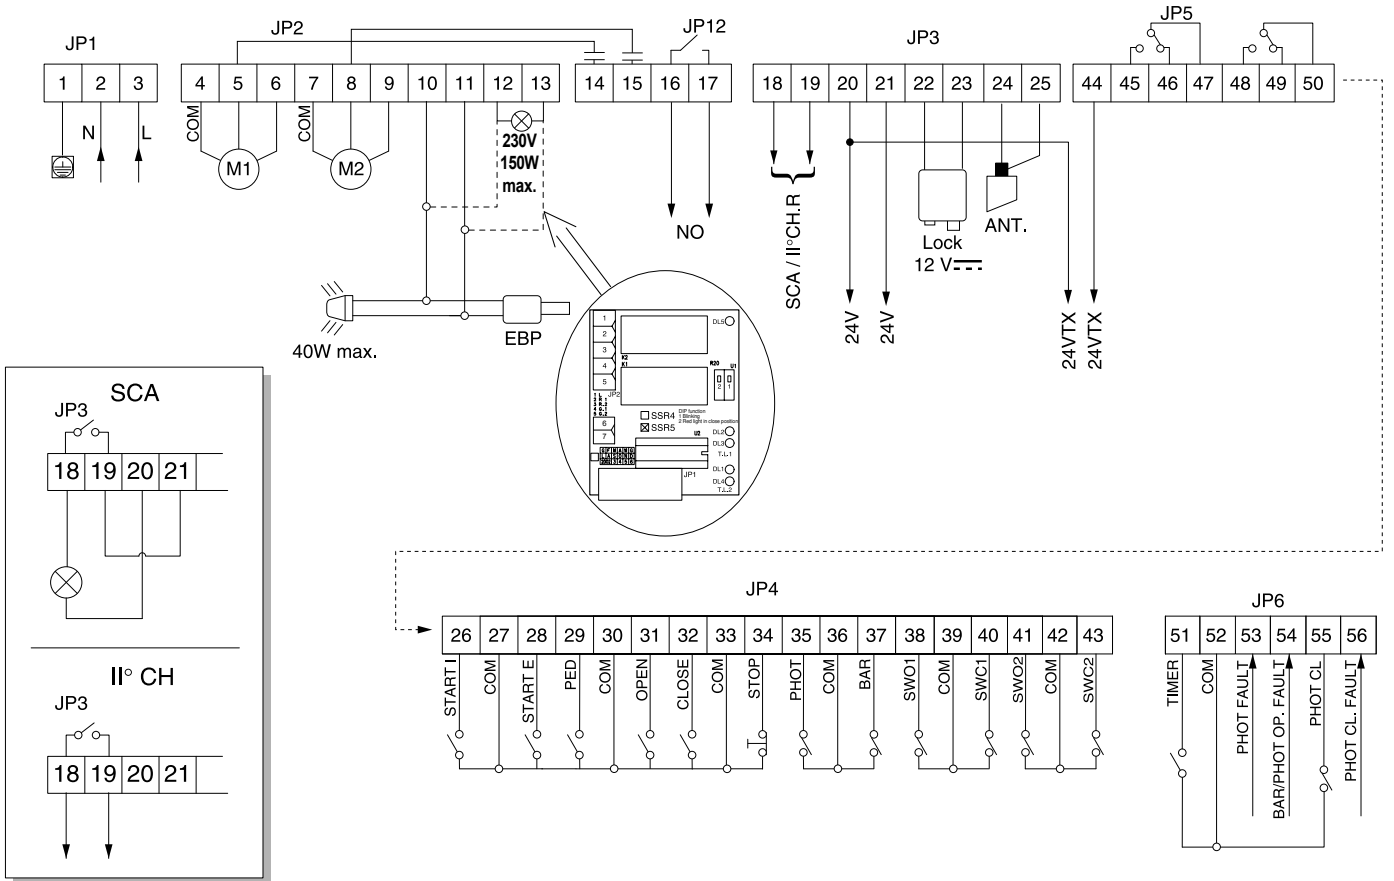

Fig. 4
15) SSR5 TRAFFIC-LIGHT / MOTOR PREHEATING BOARD (Fig.4)
Traffic light 1 must be positioned on the outside of the gate and traffic light 2 on the inside (see figure 4).
15.4) SSR5 terminal board connections (Fig.4)
15.6) Signal indication LEDs existing in the board (Fig.4)